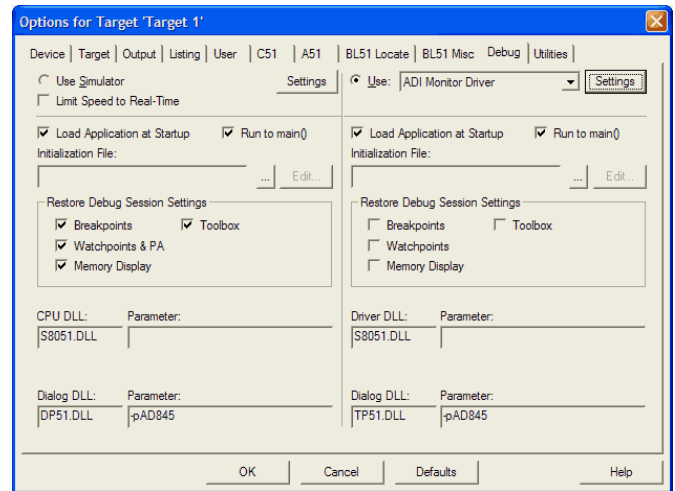
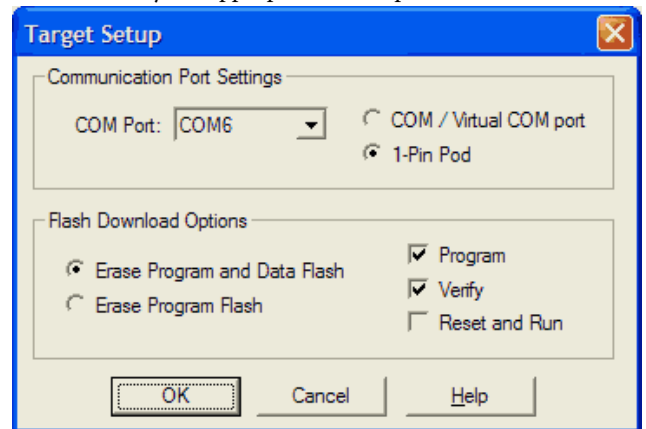

Figure 12. Options for Target Window
Figure 13. Target Setup Window
3. Make the selections as shown on the right side of Figure 12, making sure to select the ADI Monitor Driver.
4. Click **Settings** at the top right (see Figure 12) and then select **1-Pin Pod** and the COM port assigned to the emulator as shown in Figure 13. Use the Device Manager to identify the appropriate COM port.